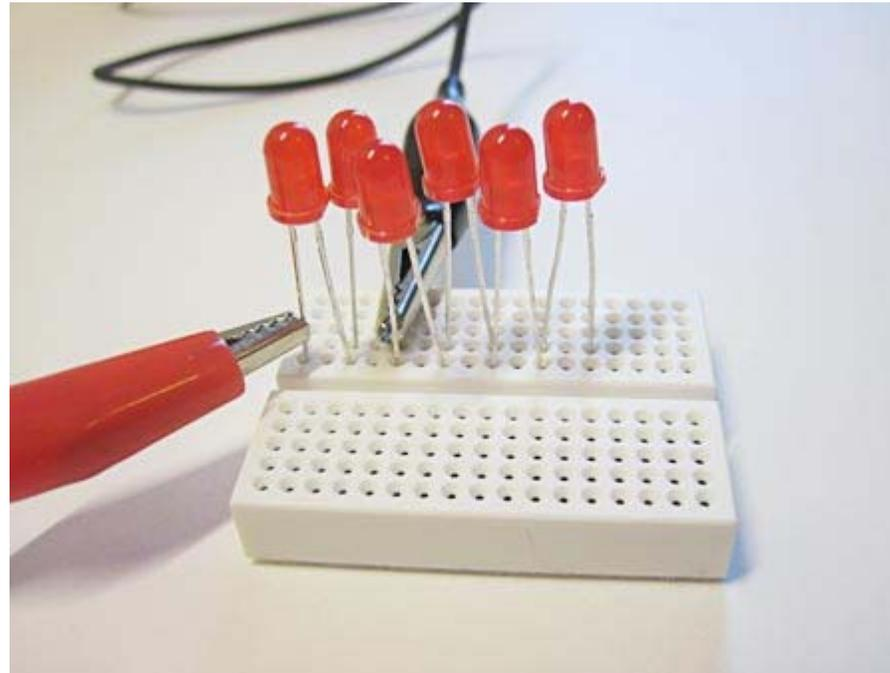

Figure 13. In order to test two LEDs, leave the red alligator clip in place. Move the black alligator clip to the shorter (right-hand) lead of the second LED.
- a. Move the black alligator clip from the short lead of the first LED (or the long lead of the second LED) to the short lead of the second LED (or the long lead of the third LED), as shown in Figure 13. Leave the red alligator clip in place.